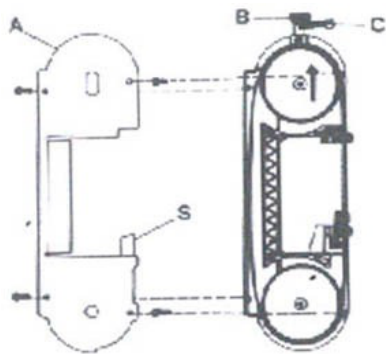

Fig.: 1
### 1. Adjusting the blade tension (Fig.1)
- Slacken the blade tension, turning knob C (fig.1) clockwise until it stops, and handwheel B anticlockwise.
- Replace protective casing A, being careful to insert the blade between the straps of the protection S(see fig.1.).